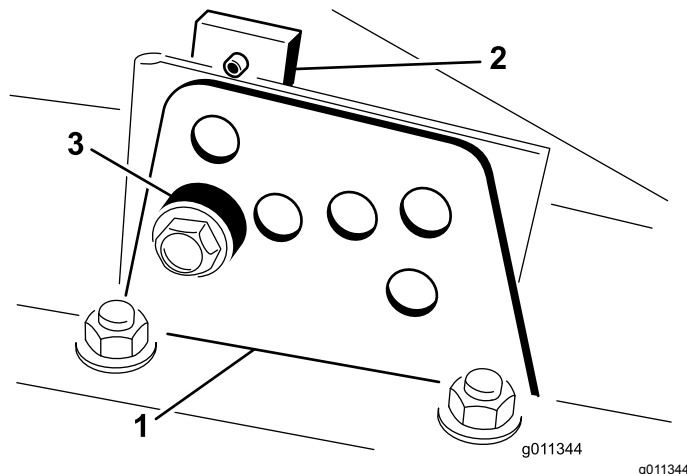

Figure 7
2. Loosen the bolt securing each height-of-cut bracket to the height-of-cut plate (front and each side) (Figure 7).
4. While supporting the chamber, remove the spacer (Figure 7).